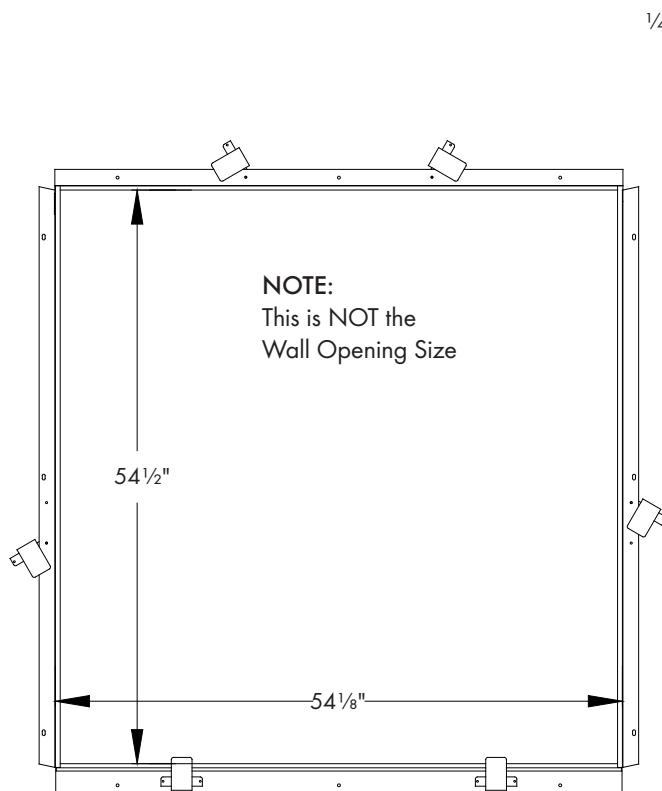
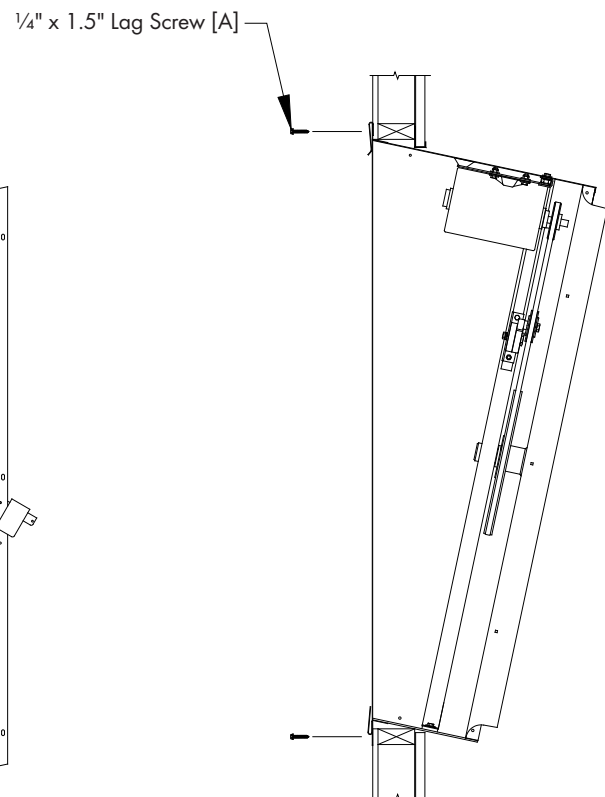

Figure 3A
Figure 3B
Confirm that housing inside dimensions match those shown in *Figure 3A*. Then secure housing to wall using (12) Lag Screws [F], through holes in each mounting flange. *See Figure 3B.*